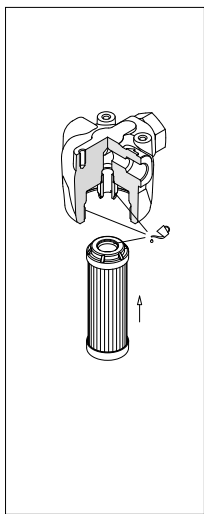

fig. 12
- (Fig. 12) Lubricate with the operating fluid the filter element O-ring, the housing tap and cavity, then fit the filter element on the tap. Pay attention not to damage the O-ring seal